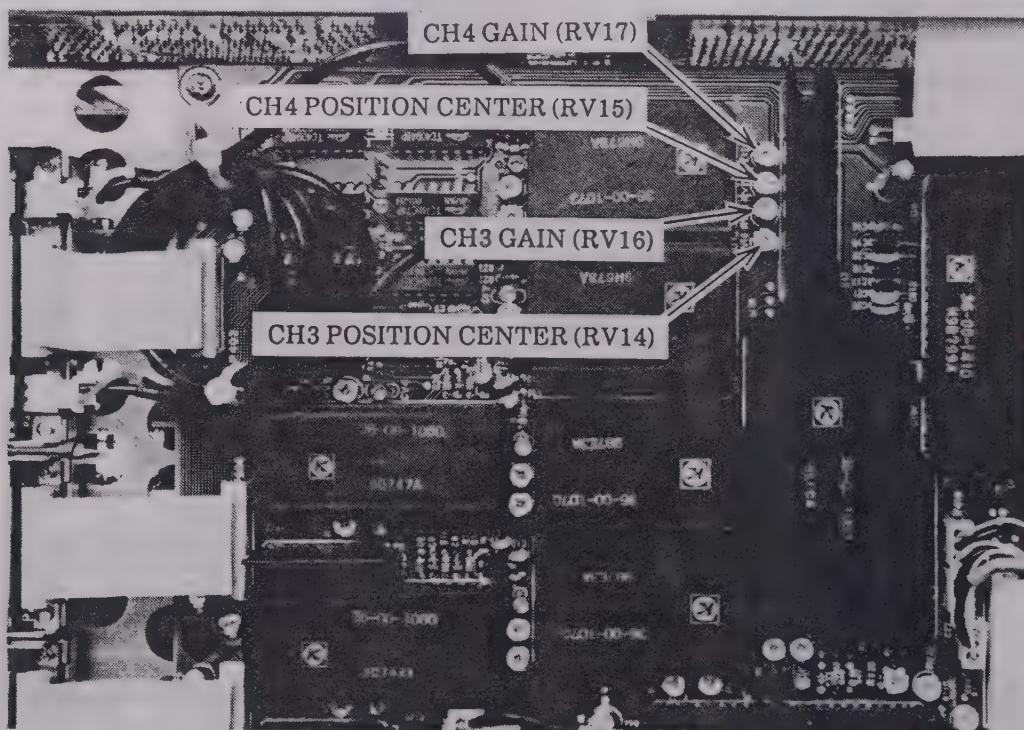

Fig. 4-19 Adjustment positions of CH3 and CH4 POSITION CENTER (RV14 and RV15)
- (3) Confirm that when the dot on the CH3 POSITION knob is set to the 12 O'clock position, the CH3 trace is at the center of the CRT screen. If it is not, adjust CH3 POSITION CENTER (RV14) on board A4 shown in Fig. 4-19.
- (3) Confirm that when the dot on the CH4 POSITION knob is set to the 12 O'clock position, the CH4 trace is at the center of the CRT screen. If it is not, adjust CH4 POSITION CENTER (RV15) on board A4 shown in Fig. 4-19.
- (1) Perform initial setting in accordance with Table 4-3.
- (2) Select "VERT MODE" switch to have only CH3 display.
- (3) Set the input coupling of CH3 to "DC", and the input deflection factor to 0.1V ("GND" OFF).
- (4) Set "TIME / DIV" to 1 ms / DIV.
- (5) Connect the amplitude calibration signal output of the vertical axis calibrator which has been set to 0.5Vp-p, to the input of CH3 (unterminated), and confirm that the amplitude in the vertical direction is within  $5 \text{ DIV} \pm 0.1 \text{ DIV}$ . If it is not, adjust CH3 GAIN (RV16) on board A4 shown in Fig. 4-19.
- (2) Select "VERT MODE" switch to have only CH4 display.
- (3) Set the input coupling of CH4 to "DC", and the input deflection factor to 0.1V. ("GND" OFF).
- (4) Set "TIME / DIV" to 1ms / DIV.
- (5) Connect the amplitude calibration signal output of the vertical axis calibrator which has been set to 0.5Vp-p, to the input of CH4 (unterminated), and confirm that the amplitude in the vertical direction is within  $5 \text{ DIV} \pm 0.1 \text{ DIV}$ . If it is not, adjust CH4 GAIN (RV17) on board A4 shown in Fig. 4-19.